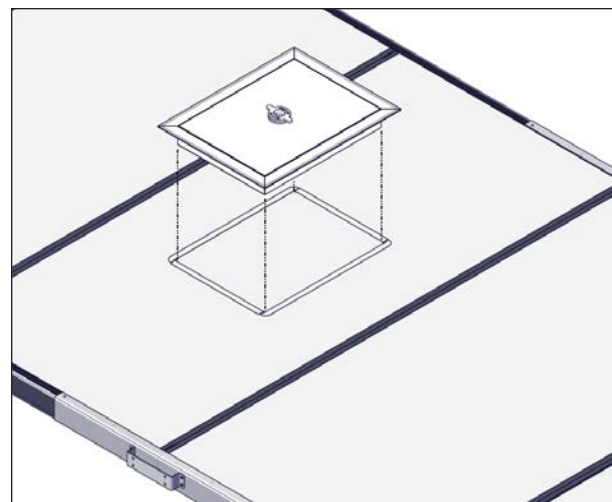

FIGURE 71: ESCAPE HATCH INSTALLATION
2. Turn the escape hatch handle to retract the arms and install it into the escape hatch opening of the center panel, see Figure 71.